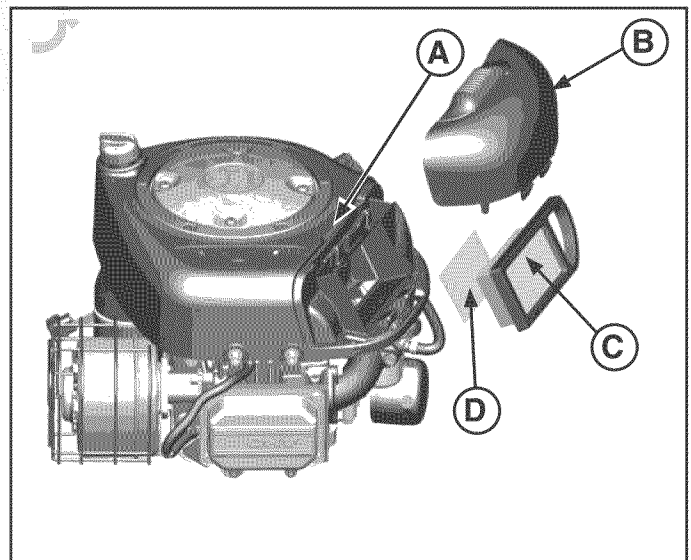

FIGURE 17
1. Lift up on the bottom of the latch (A, Figure 17) and flip the latch away from the cover (B).
2. Remove the cover. Remove the filter (C) and the pre-cleaner (D).